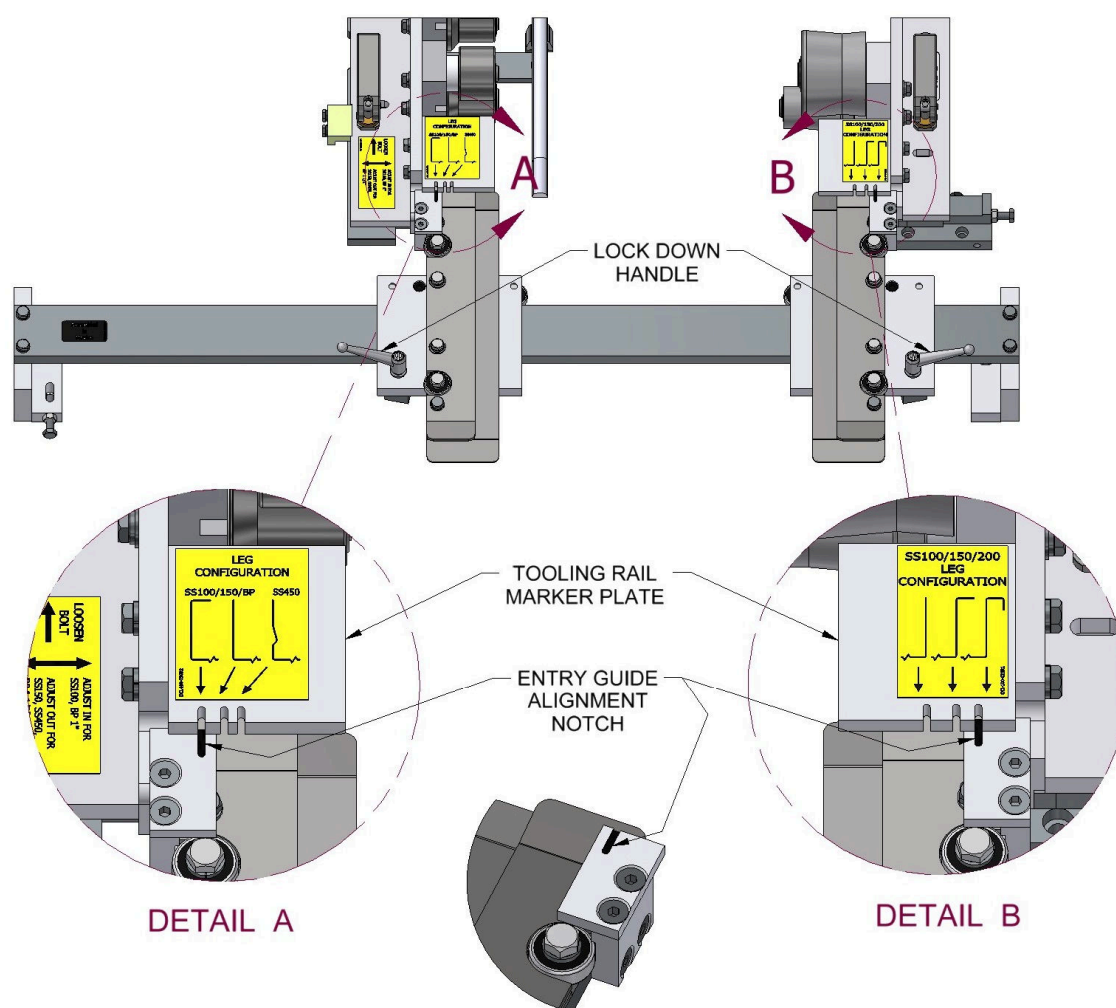

Figure 44: Entry Guide Lock Down Alignment
(Figure 44)
2. To align, loosen the Lock Down Handle on the Right Entry Guide (Figure 44). Slide the entry guide to the left or right until the Entry Guide Alignment Notch is directly under one of the notches on the Tooling Rail Marker Plate. Make sure to choose the notch on the Marker Plate that corresponds to the desired leg configuration as noted on the decal on the top of the Marker Plate.